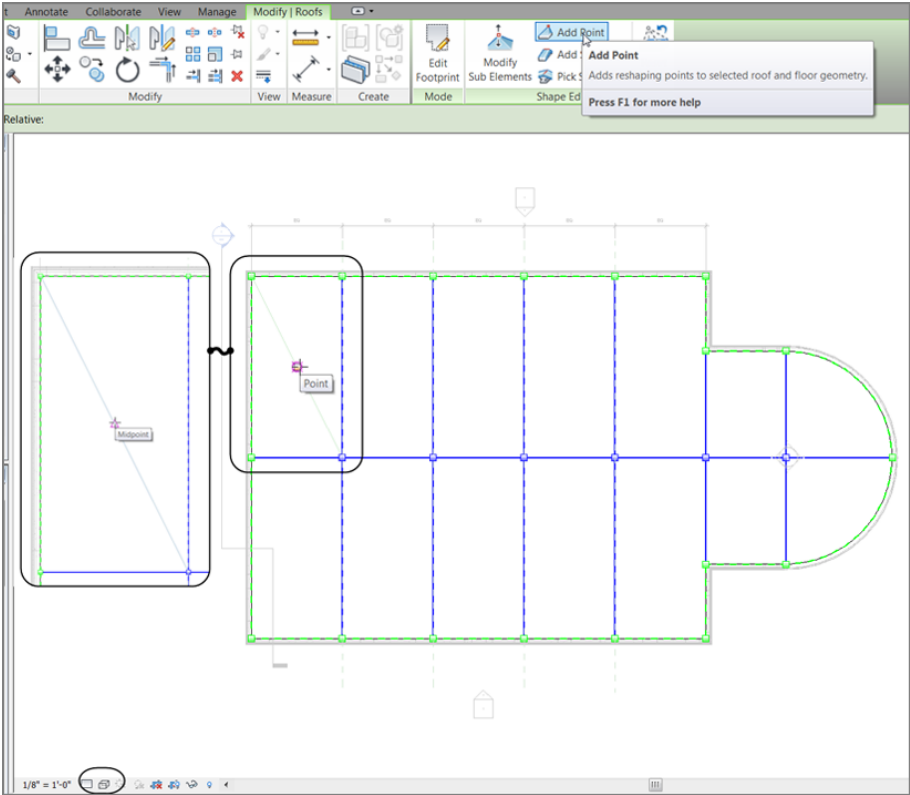

FIGURE 7.12: Adding a temporary line
22. Draw a diagonal line between the two points shown in Figure 7.12.